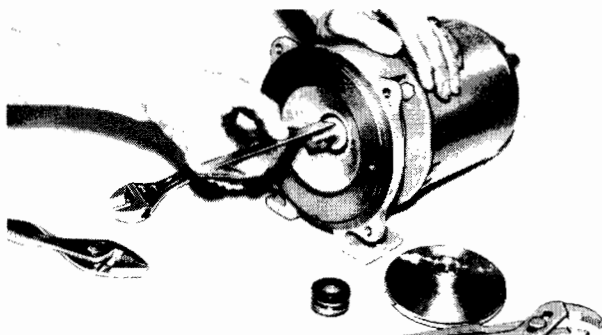

Figure 14
9. If motor must be replaced, set shaft for seal spacing of 23/32" from seal seat face to shank on shaft. (See Fig. 14).
5. Only complete motors are used with HCM and HC pumps. (See Fig. 14 for proper seal spacing.)
- 12. Measure from ceramic seal face to shank on shaft. This length must be 23/32". (See Fig. 14).